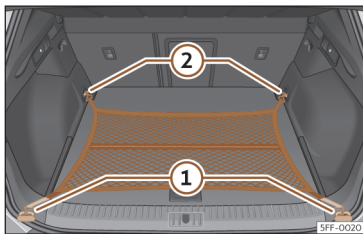

Fig. 189 In the boot: net bag hooked up at floor level.
- Secure the net hooks to the fastening rings >>> Fig. 189 ① and ② >>> ⚠. The bag zip should be facing upwards.